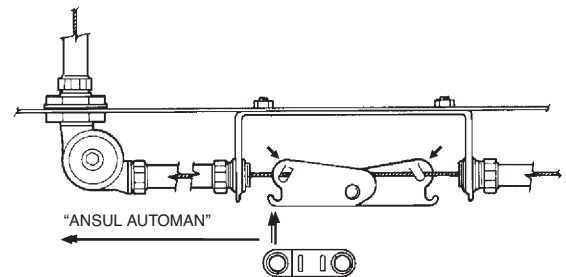

FIGURE 38
- Install detector scissor assembly as shown in Figure 38. Note that the ANSUL AUTOMAN release is located on the left side of the detector bracket. **Slightly** crimp the two assembly “boot-hooks” over the cable with pliers so the cable is captured under each hook but the whole assembly can move from side to side. Center the assembly in the detector bracket.